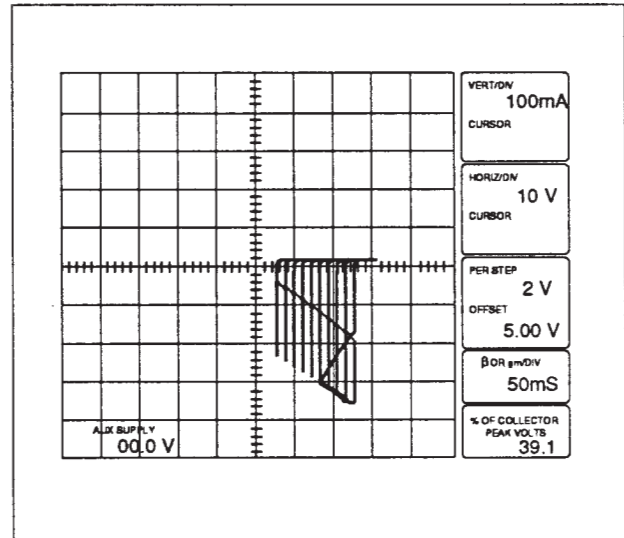

Figure 4-9. Second test display for Maximum Current check.
g. CHECK that the center vertical line of the displayed waveform extends past the second horizontal graticule line below graticule center (see Figure 4-9).